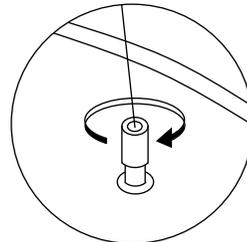

Fig 12
10. Screw holder back into Nabucco (Fig 12).